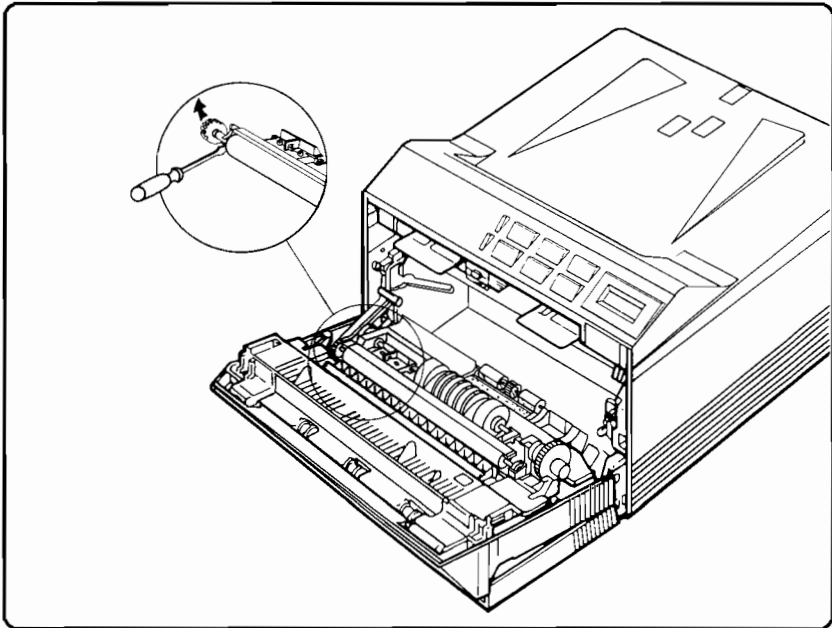

Figure 4-6. Removing the Transfer Roller for Cleaning
1. Use a small flat head screwdriver to lift the left end of the Transfer Roller out of its bushings. Slide the assembly slightly toward the left and remove the Transfer Roller carefully. **Do not use force** (see Figure 4-6).